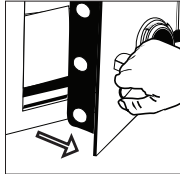

Figure 5
5. Rotate the handle clockwise to the right and pull the door open (Figure 5).